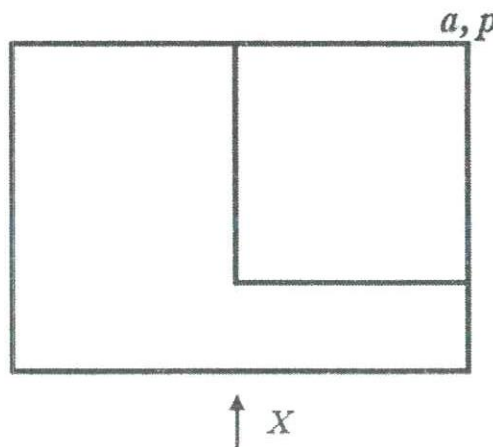

Figure Q5
- Q5. Figure Q5 shows the **incomplete Plan View** of a sheet metal transition piece required between a 40 mm square duct and an 80 mm X 60 mm rectangular duct. The height of the transition piece is 60 mm.
- a) Draw the **complete Plan view** and project the **Front View** in the direction of the arrow *X*. Name the rectangle as *abcd* and the square as *pqrs* in the plan view such that points *a* and *p* coincide in the plan view as given in Figure Q5.